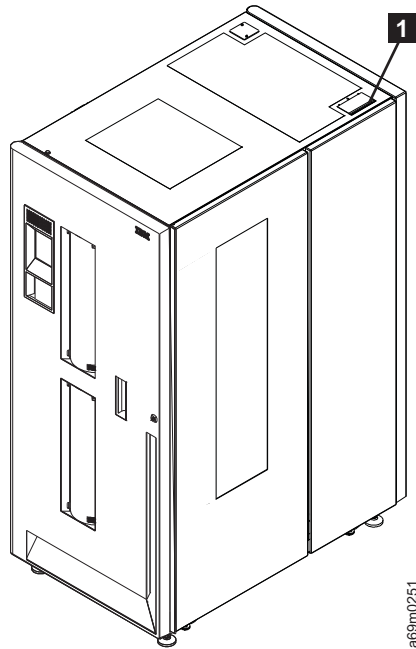
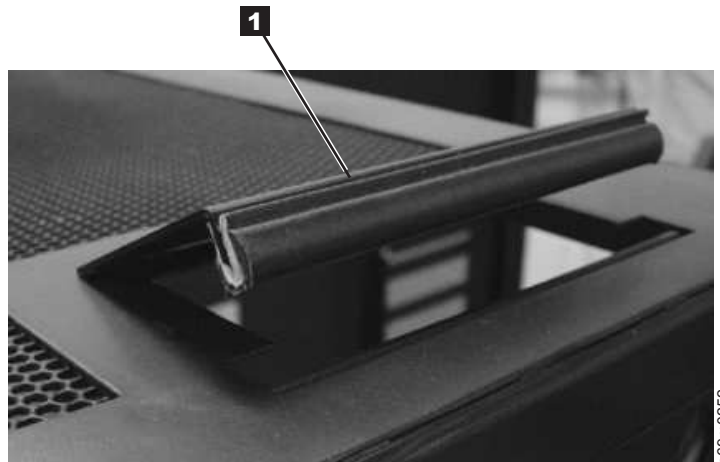

Figure 21. Opening for routing Fibre Channel cables from servers through the top of a frame
Figure 22. Opening the cable access door at the top of a frame
1. Open the cable access door at the top of the frame (see **1** in Figure 21 on page 107, and Figure 22 on page 107).